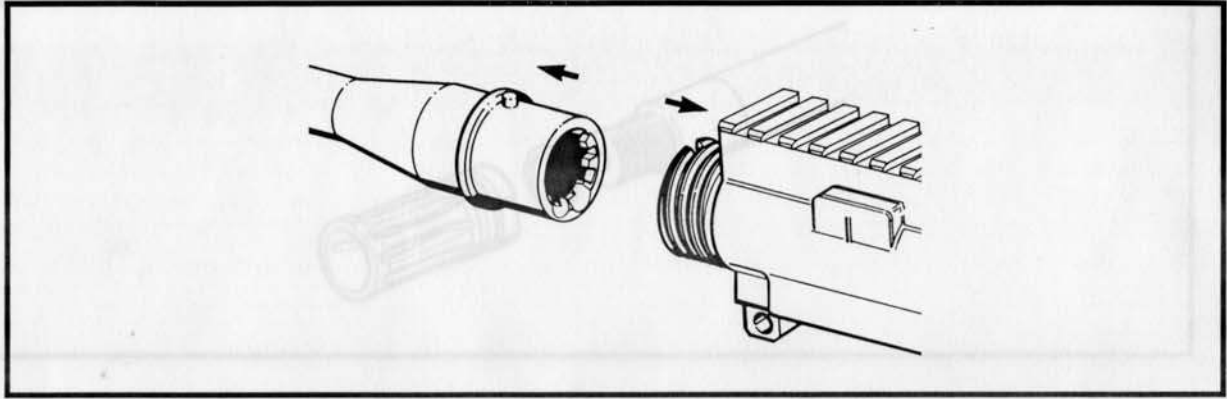

Figure 3-2-13 Separating the Barrel and Upper Receiver Assemblies
- d. Separate the barrel assembly and upper receiver by pulling rearward on the upper receiver. See Figure 3-2-13.